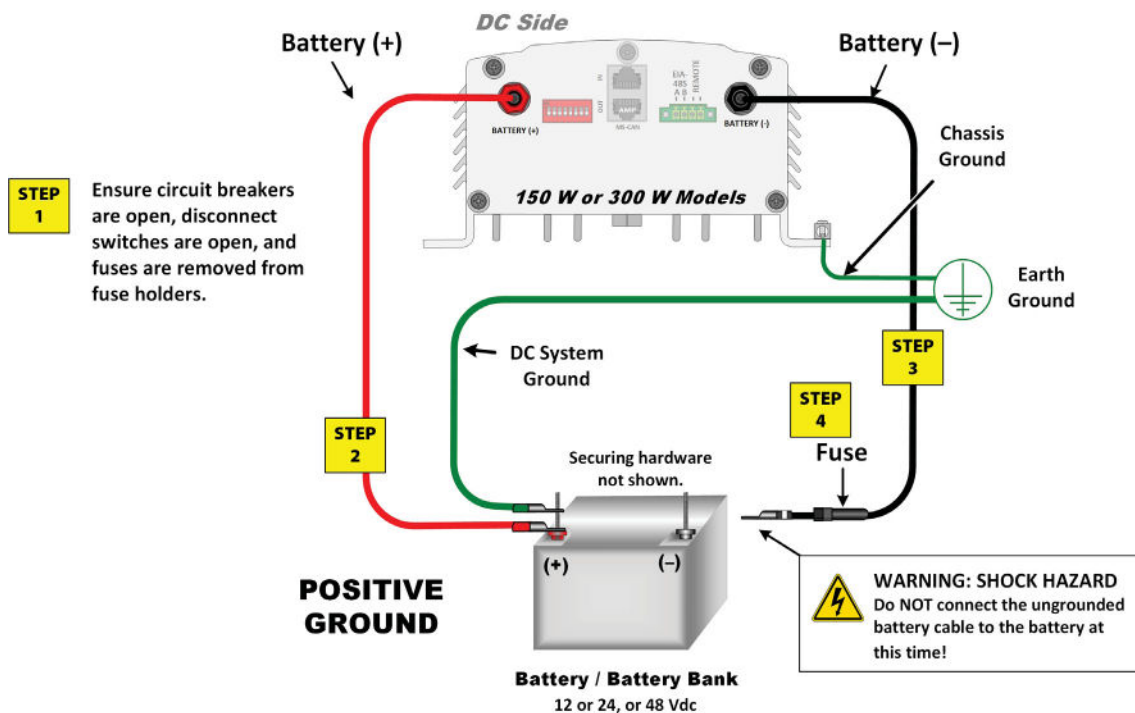

Figure 22: DC Connections on 150 W & 300 W Models with Positive Grounding
- **For 150 W & 300 W Models:** See Figure 22 on page 27